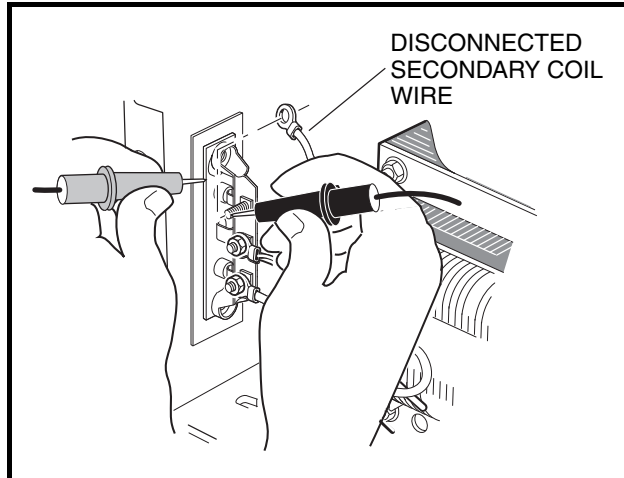

Figure 8-10 Diode Test
3. Disconnect one transformer secondary coil wire from the diode terminal (**Figure 8-10, Page 8-17**).
4. Using a low voltage continuity tester or multimeter set to the diode test function, connect the red (+) test probe to the diode mounting plate and the black (–) test probe to a diode terminal and note the reading (**Figure 8-10, Page 8-17**).